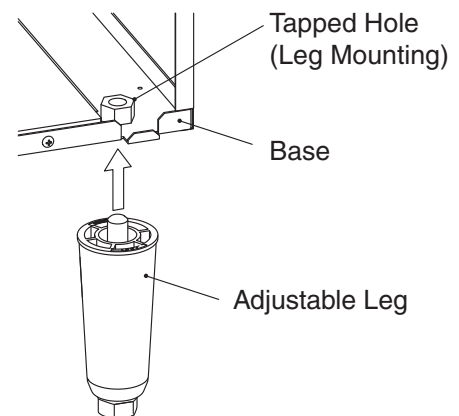

Fig. 3
- 5) If installing the unit with legs on the bottom, use the four accessory legs adjustable from 6" (15.2 cm) to 7" (17.8 cm). Screw the legs tightly into the tapped holes in the base. See Fig. 3.